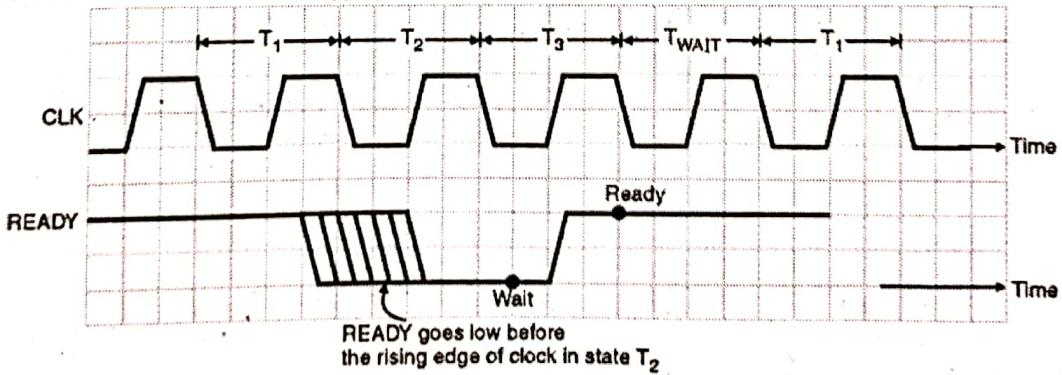

Fig. 2-Q. 1(a) : WAIT T-states
- **Concept of wait T-states**: It is used to synchronize slower devices. If a particular memory or I/O device is slower i.e. has a greater value of access time, then it needs to disable the READY pin of the microprocessor. This causes the microprocessor to insert wait states in between the machine cycle giving time for the device to place its data on the data bus. The name is given as wait states as the microprocessor waits for the device. The processor waits until the READY pin is enabled again. Fig. 2- Q. 1(a) shows wait states inserted in between of a machine cycle.